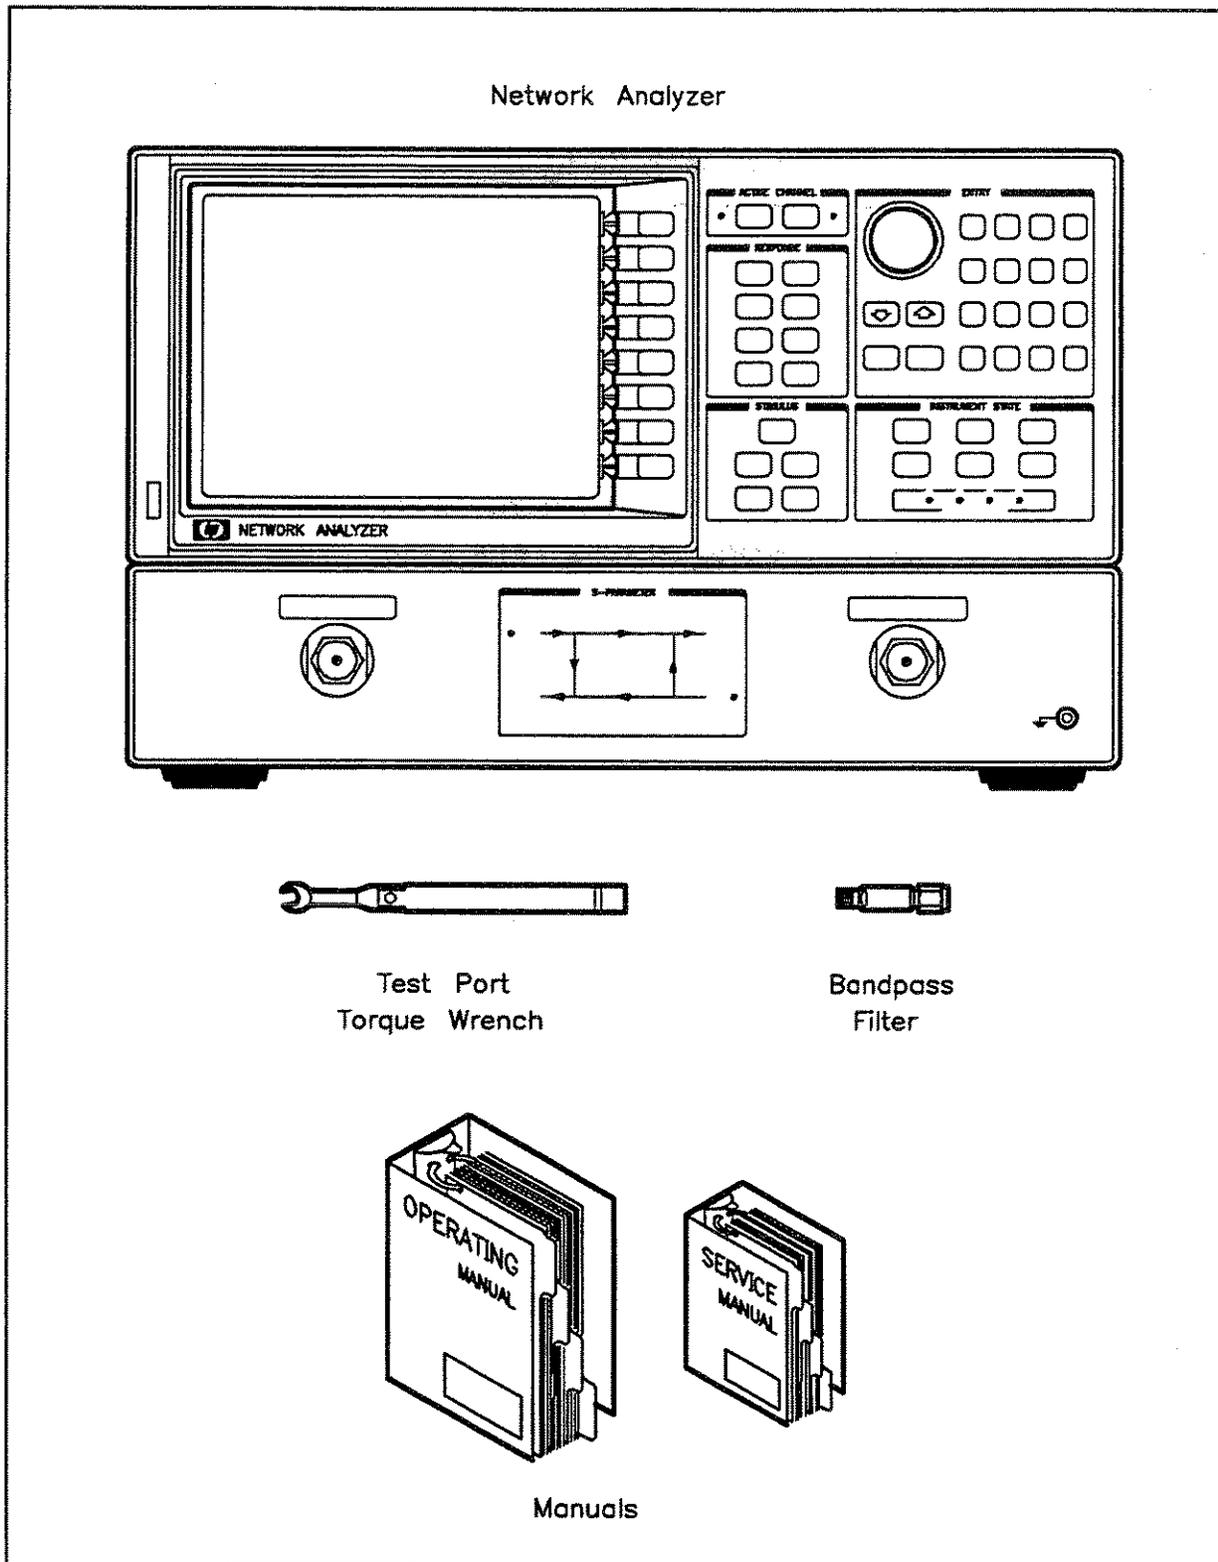

Figure IN-1. Contents of Shipping Container
2. Verify that the shipping container contains everything shown in Figure IN-1.